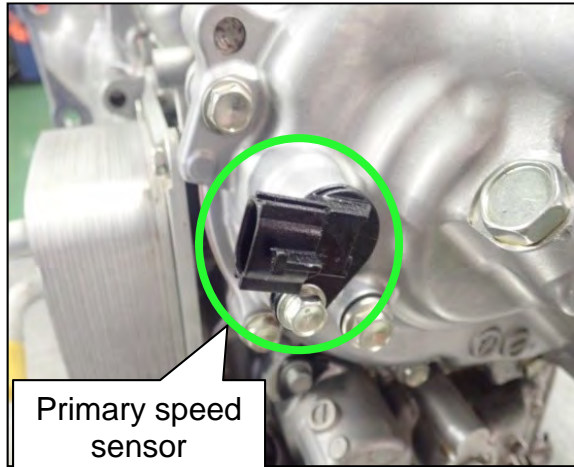
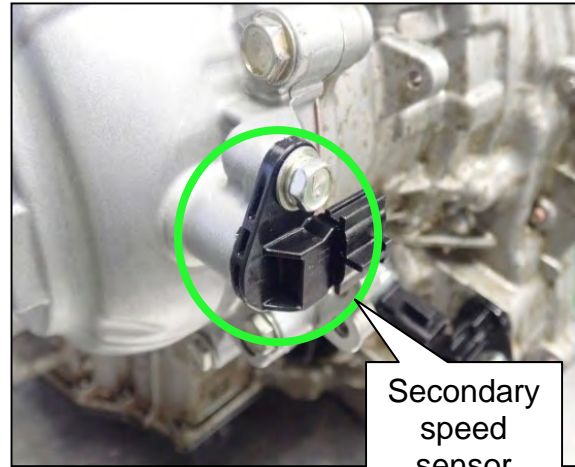
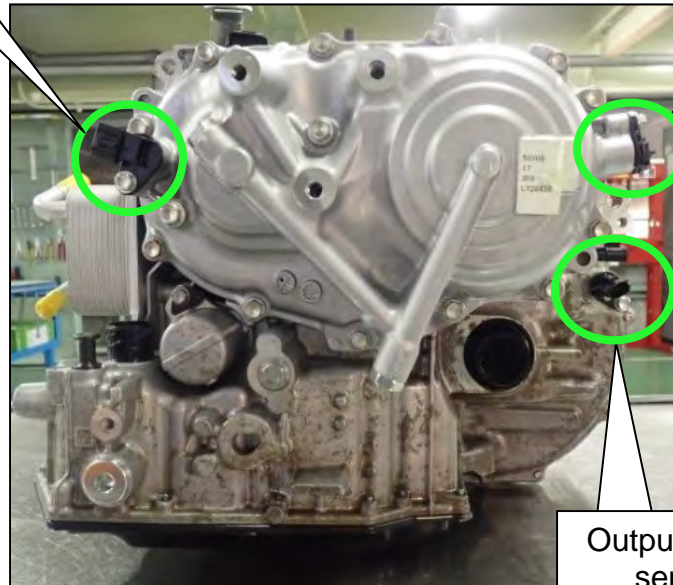

Figure 50
Figure 51
Figure 52
33. Remove the primary speed sensor, secondary speed sensor and the output speed sensor from the CVT (Figure 50, Figure 51, Figure 52 and Figure 53).